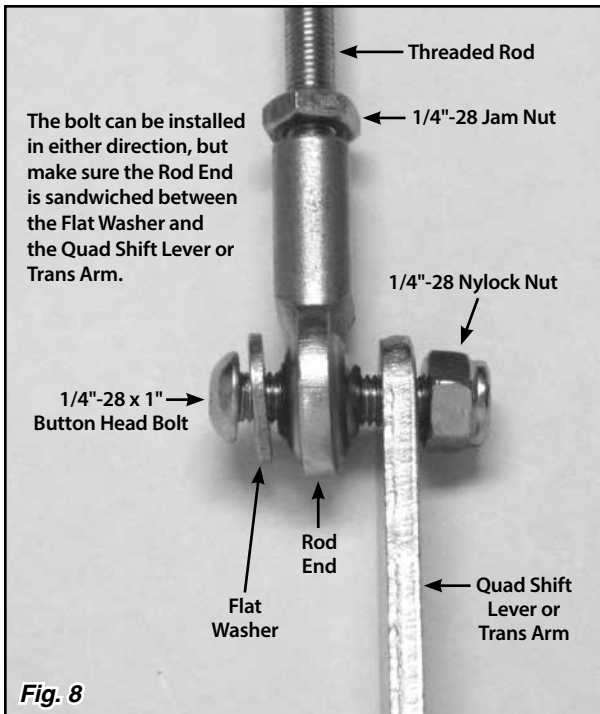
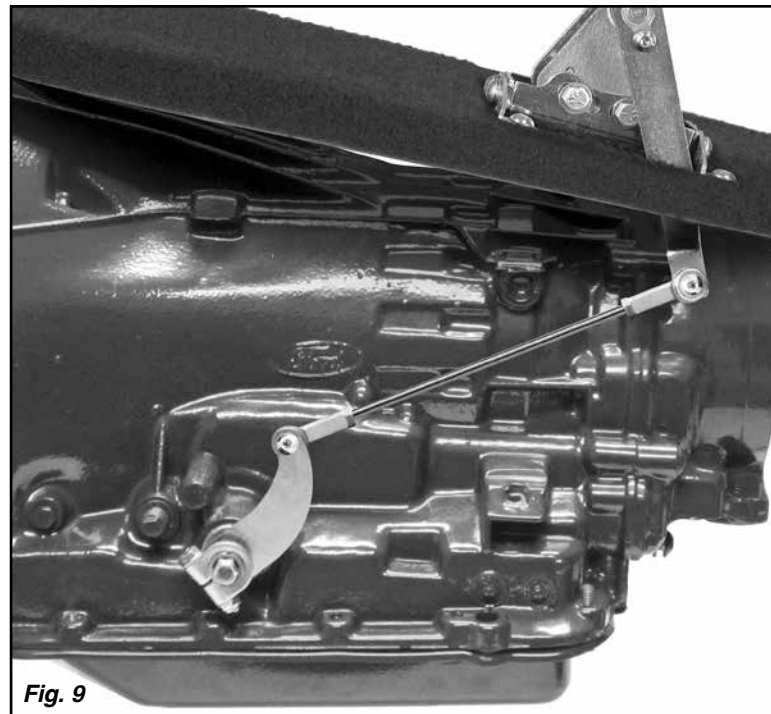

Fig. 8
Fig. 9
**Step 12:** Make sure that two 1/4"-28 jam nuts are installed on the threaded rod, one at each end. Install a rod end onto each end of the threaded rod. Position the rod ends on the inside or outside of the quad shift lever and trans arm so that the threaded rod is as straight as possible. Attach the threaded rod assembly to the quad shift lever and trans arm using the 1/4"-28 x 1" button head bolts, flat washers, and nylock nuts as shown in **Fig. 8**. The button head bolts can be installed from either direction, but make sure the rod ends are sandwiched between the flat washers and the quad shifter lever or trans arm. **Fig. 9**